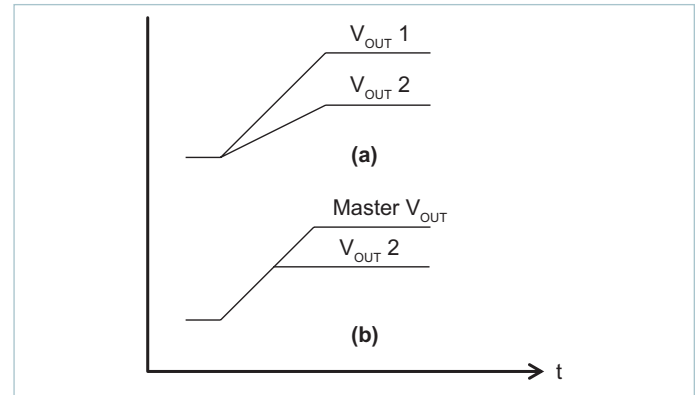

Figure 61 — PI33xx-x0 tracking methods
There is typically either proportional or direct tracking implemented within a design. For proportional tracking between several regulators at startup, simply connect all devices TRK pins together. This type of tracking will force all connected regulators to startup and reach regulation at the same time (see Figure 61(a)).
All connected regulators' soft-start slopes will track with this method. Direct tracking timing is demonstrated in Figure 61(b). All tracking regulators should have their Enable (EN) pins connected together to work properly.